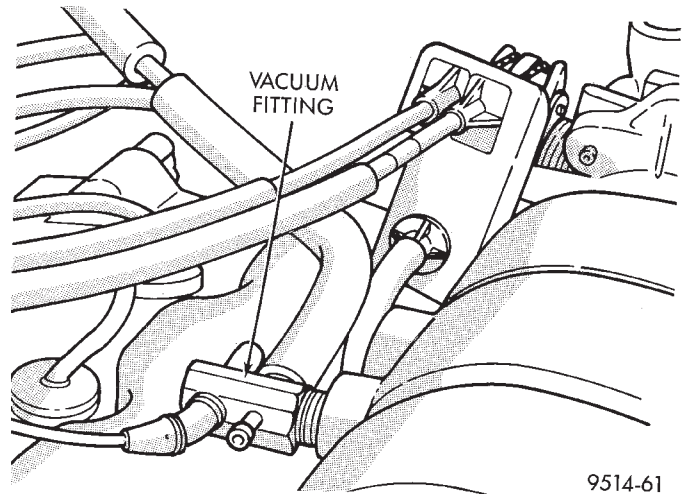

Fig. 31 Vacuum Fitting on Rear of Intake Manifold
(1) Perform fuel system pressure release procedure **before servicing or starting repairs**. Refer to Fuel System Pressure Release Procedure in this section.
(2) Disconnect negative cable from battery.
(3) Remove air cleaner inlet hose from throttle body.
(4) Remove throttle cable and speed control cable (if equipped) from throttle lever.
(5) Remove throttle cables from bracket by compressing retaining tabs.
(6) Remove connector from throttle position sensor.
(7) Remove connector from idle air control motor.
(8) Remove vacuum lines from intake plenum fittings (Fig. 31) and (Fig. 32).